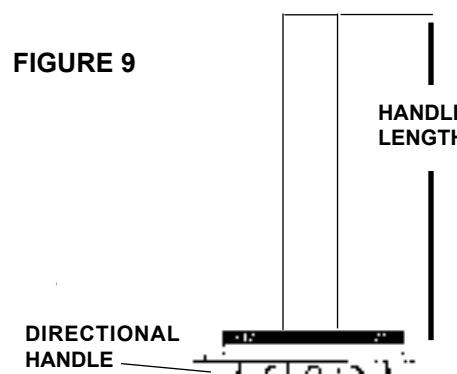

FIGURE 8
STEP 9. Measure and cut the threaded rod with a hacksaw. Use the chart, Figure 8, to determine the length.
STEP 13. Measure and cut the directional handle; see Figure 9 and chart, Figure 8. **NOTE:** A tube cutter is recommended for cutting the directional handle. This gives a square cut; a hacksaw does not. If using an extension, see Step 17.